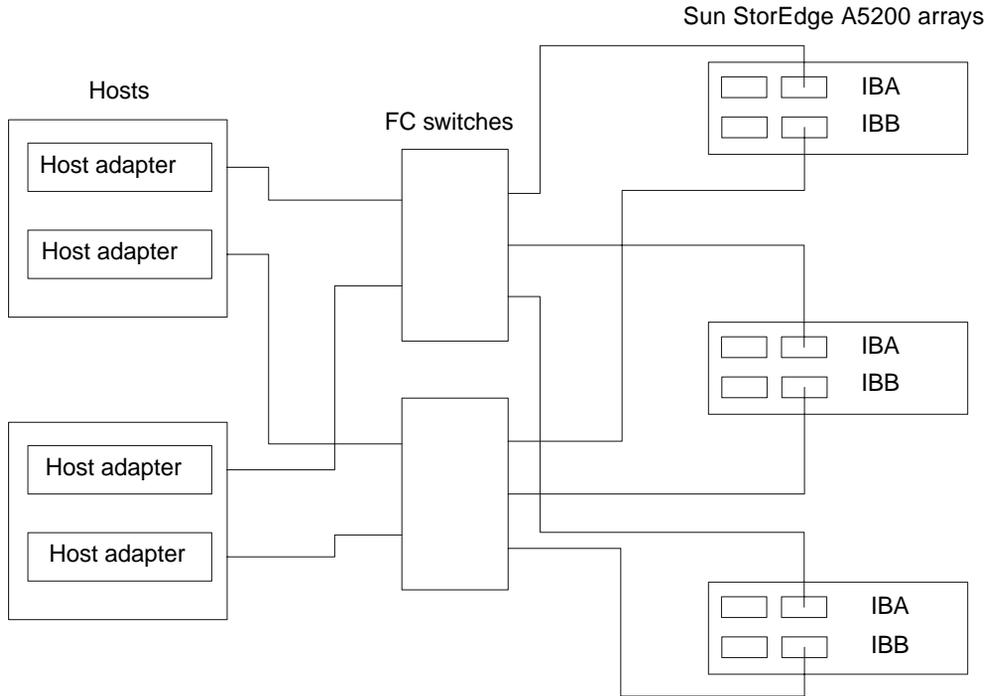

FIGURE 6-3 Sample StorEdge A5200 Array SAN Configuration
FIGURE 6-3 shows a sample SAN hardware configuration when using two hosts and three StorEdge A5200 arrays. Note that you must use two switches configured in parallel to achieve high-availability in a Sun Cluster environment. All switch ports are defined as the segmented loop (SL) type, as required. See the *Sun StorEdge Network FC Switch-8 and Switch-16 Installation and Configuration Guide, Sun SAN 3.0* for details.